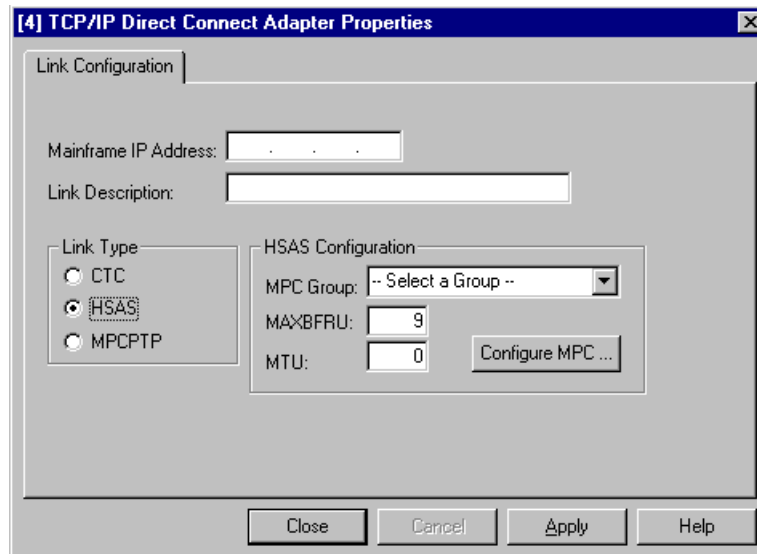

Figure 6-9. HSAS Configuration
8. Both HSAS and MPCPTP are MPC+ links. HSAS is used for UPD applications such as SAP R/3. MPCPTP is used full TCP/IP communications with OS/390. Click the appropriate radio button based on which service this link is to provide. The TCP/IP Direct Connect Adapter Properties screen will display MPC+ configuration fields (Figure 6-9). (Note: TCP/IP Direct Connect is configured the same for both HSAS and MPCPTP. The example shown here creates a HSAS link).